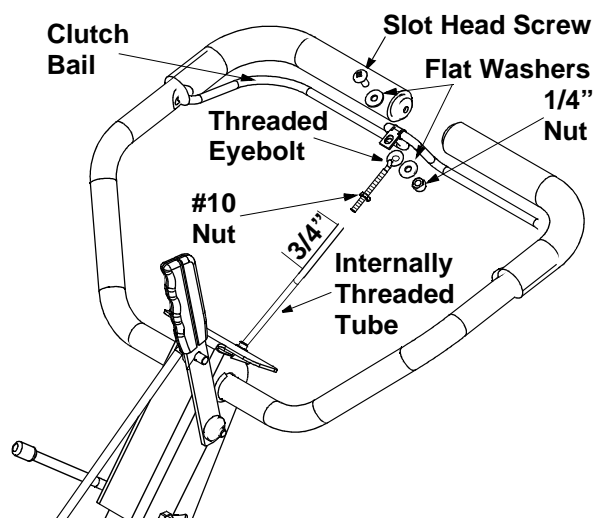

Figure 4
- Fasten the threaded eyebolt onto bail as shown in Figure 4. The parts go together from top to bottom as follows: Slot Head Screw, Flat Washer, Clip, Eyebolt, Flat Washer and 1/4" Nut.
- Thread eyebolt and #10 nut, removed in step 1, into the internally threaded tube at the end of the cable. Thread engagement should be about 3/4". Tighten nut against tube at end of cable. See Figure 4.